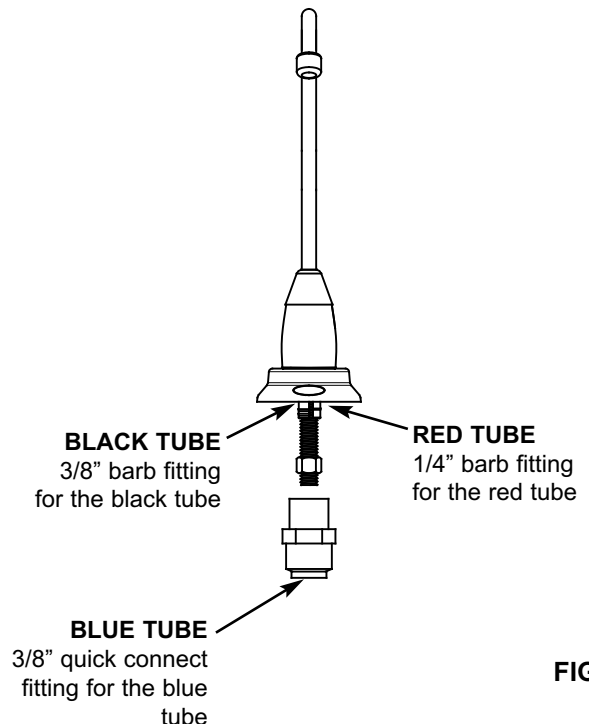

FIG. 2
5. Snip off about 1/2" length of tubing from both the 1/4" red tubing and the 3/8" black tubing before reattaching to the barbs on the new faucet. See Fig. 2.
8. Thread the tubing connector onto the bottom of the faucet stud. See Fig. 2.
9. Snip off about 1/2" length from the end of the 3/8" blue tubing from the R.O. Push the end of the blue tube into the tubing connector. See Fig. 2.